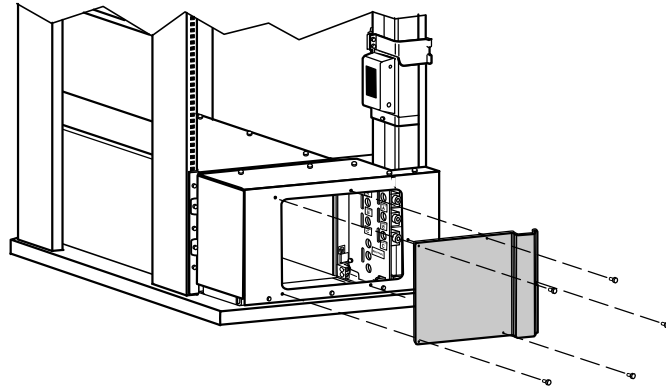

Figure 5. Removing the Wireway Access Cover (Bottom Entry Rack Shown)
1. Remove the five screws on the wireway access cover and retain. Remove the cover and retain. See Figure 5.